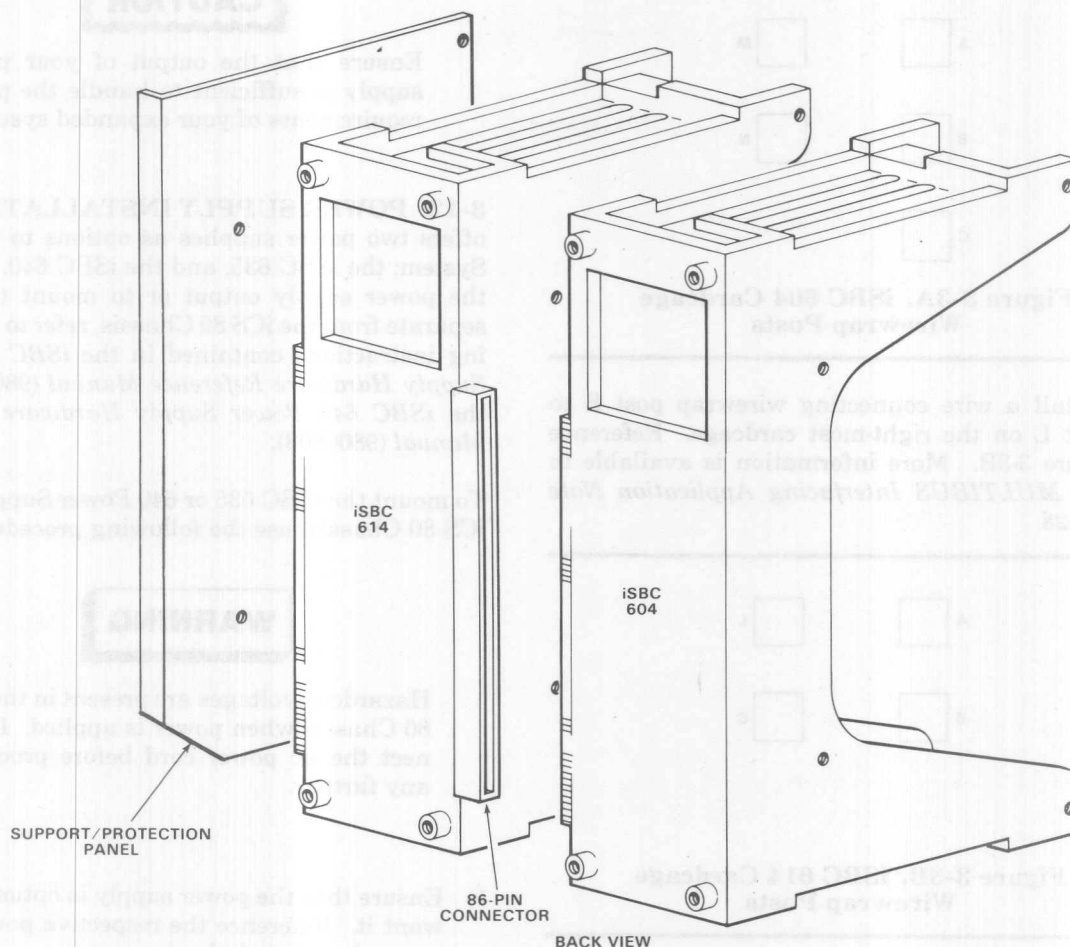

Figure 3-1. iSBC 604/614 Cardcage Connection
- 5) From the top, insert the additional iSBC 614 Cardcage Assembly into the chassis and align it with the first cardcage. Seat the 86-pin plug (on the iSBC 604 Cardcage Assembly) into the 86-pin socket (on the iSBC 614 Cardcage Assembly). Figure 3-1 shows the connectors on the back of the cardcages.